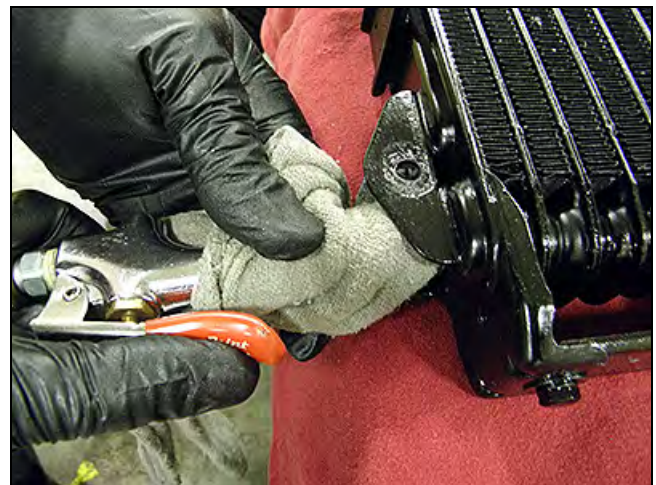

Figure 8E
- 28 To complete the flush, insert the tip of an air gun again into the end of the fluid cooler inlet (Figure 8E).
- 29 Wrap a shop rag around the air gun tip and end of the cooler inlet (Figure 8E).